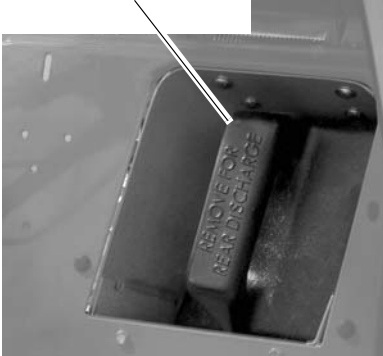

Figure 11
2. Remove Mulchmaster plug (Figure 11).
3. Install Mulchmaster plug (Figure 11).